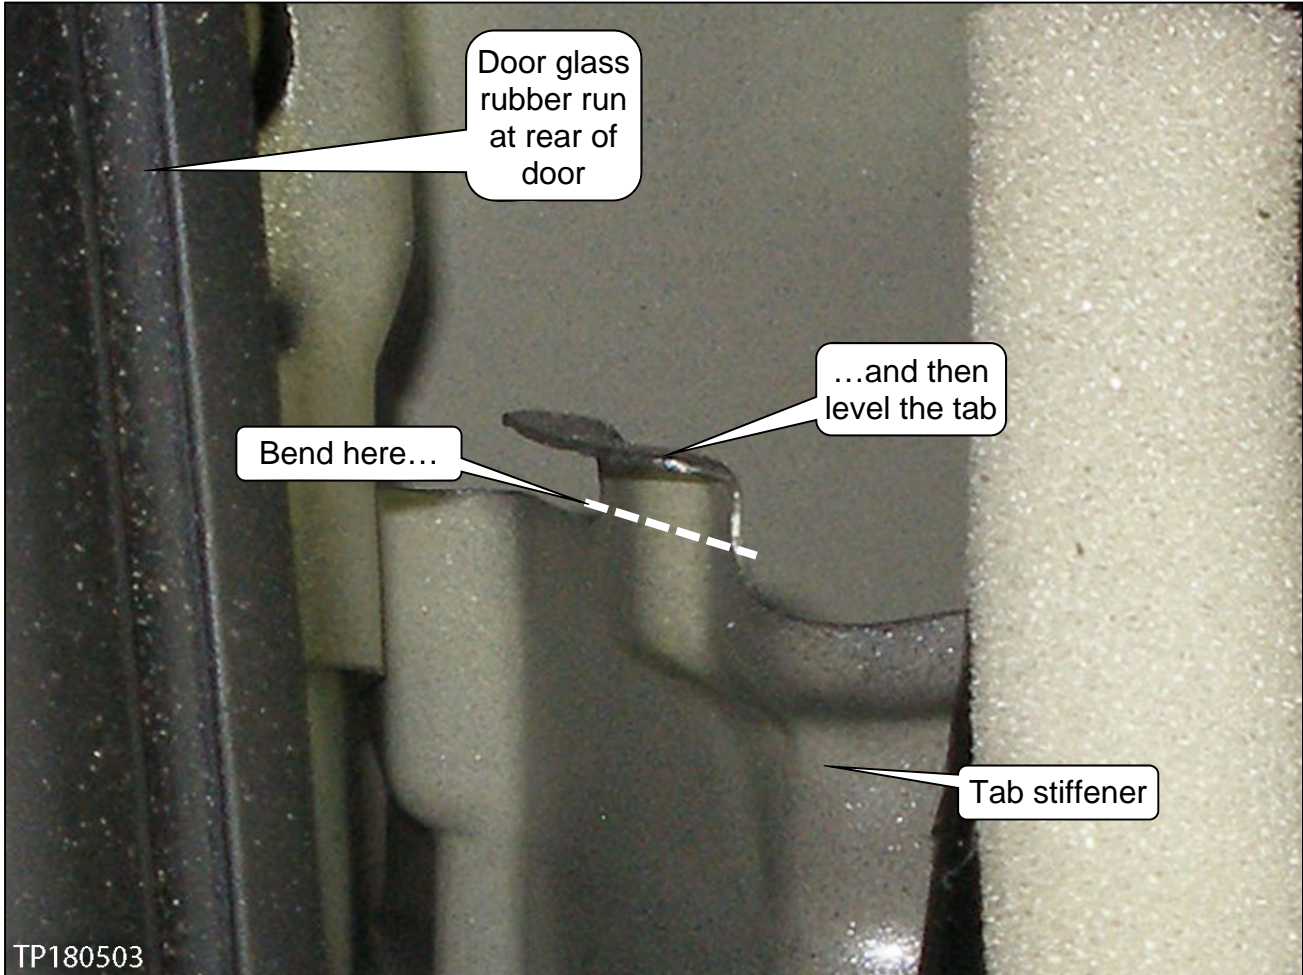

Figure 7
- Using a suitable pair of pliers, adjust the gap by bending the tab stiffener horizontally along the dashed line (see Figure 7).
- After adjusting the gap, adjust the tab as necessary to a level position (see Figure 7).